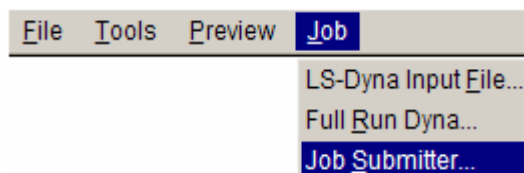

Figure 3.39 Job menu
1. Click **Job**→**Job Submitter...** in the menu bar. See Figure 3.39.